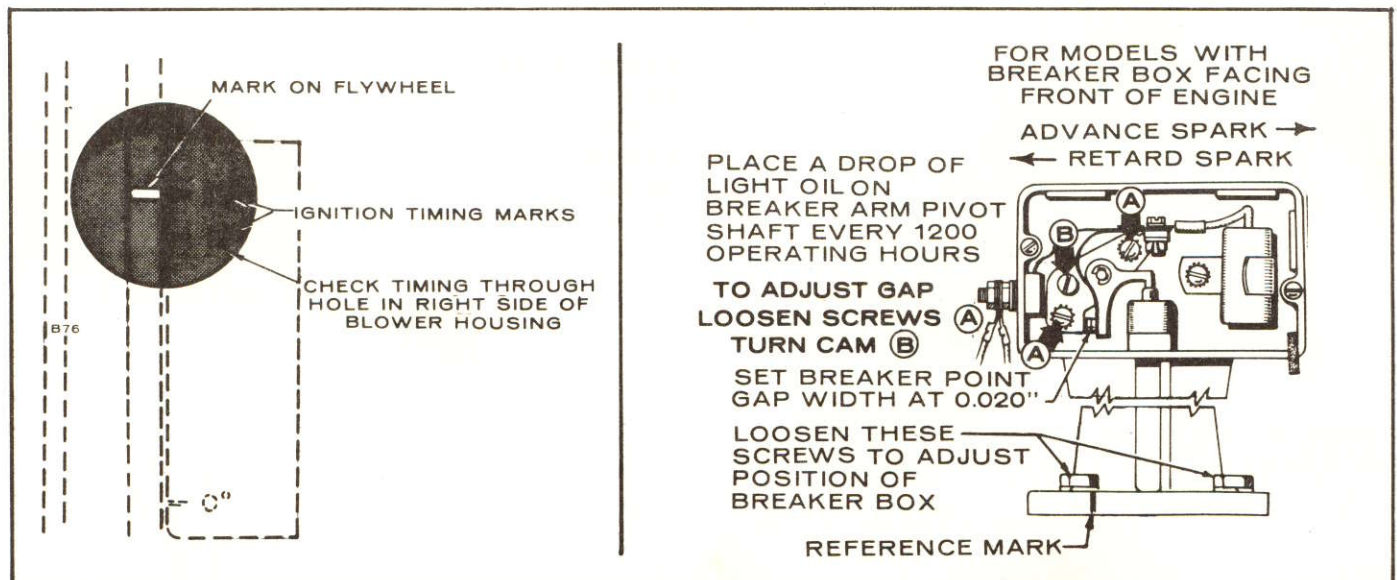

FIGURE 7. IGNITION TIMING AND BREAKER POINTS
3. Turn flywheel in a clockwise direction approximately 1/4 turn after top center (TC).
4. To adjust gap refer to Figure 7. Loosen screws (A) and turn cam (B) until point gap measures .020" with a flat thickness gauge. Retighten screws (A) and recheck gap.